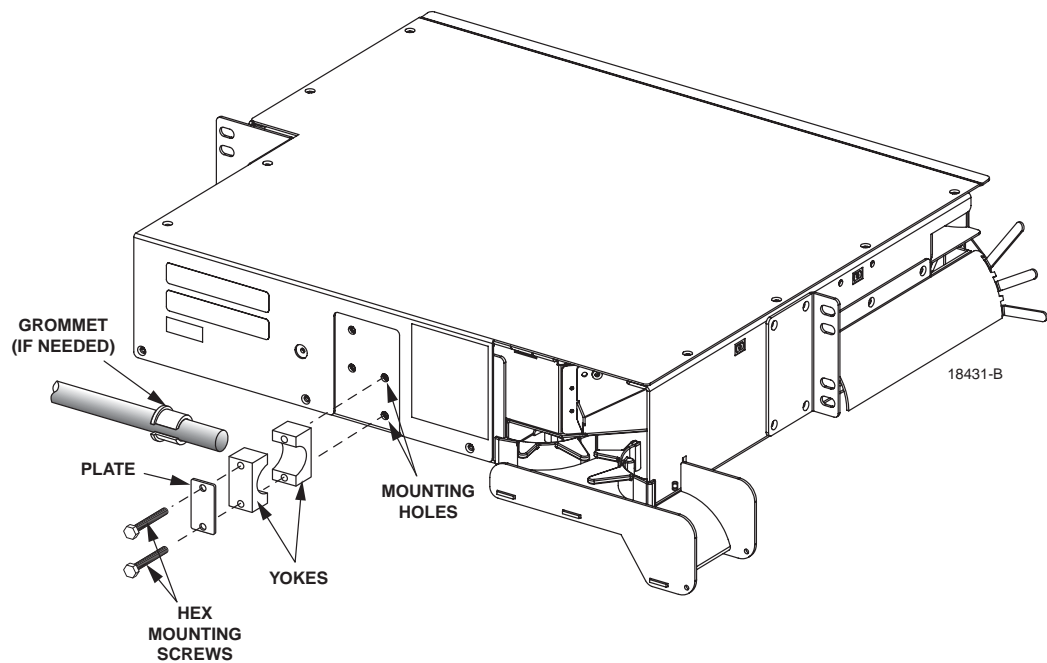

Figure 35. Clamping Cable to Standard Termination Panel
6. At the rear of the panel, clamp the cable to the panel using a cable clamp kit. The components of the cable clamp kit are shown in Figure 35.